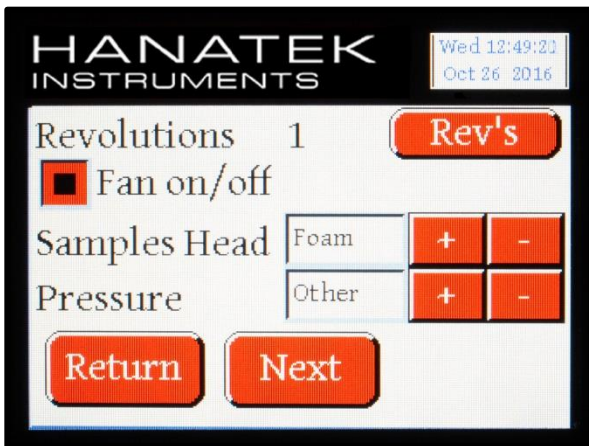
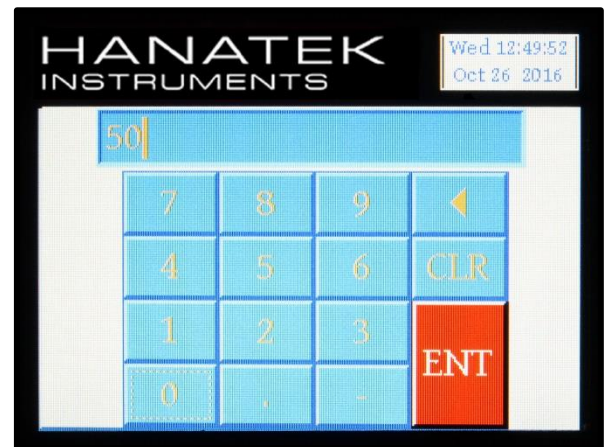

Fig 12
Fig 13
- To set the number of revolutions, press the *Rev's* button (fig 12) and input the amount of revolutions required (fig13).